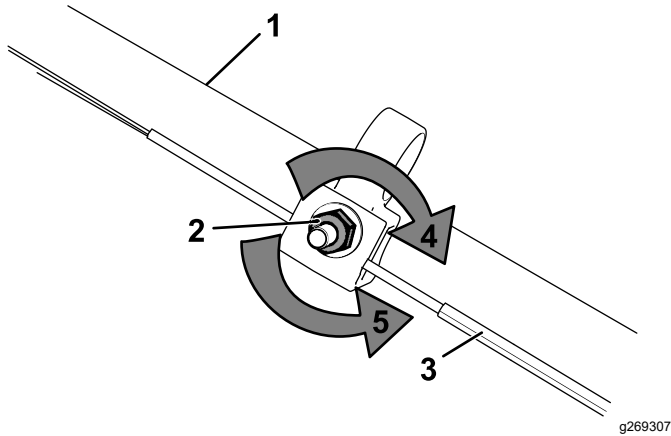

Figure 26
1. Turn the adjustment nut counterclockwise to loosen the cable adjustment (Figure 26).
2. Adjust the tension on the cable (Figure 26) by pulling it back or pushing it forward and holding that position.